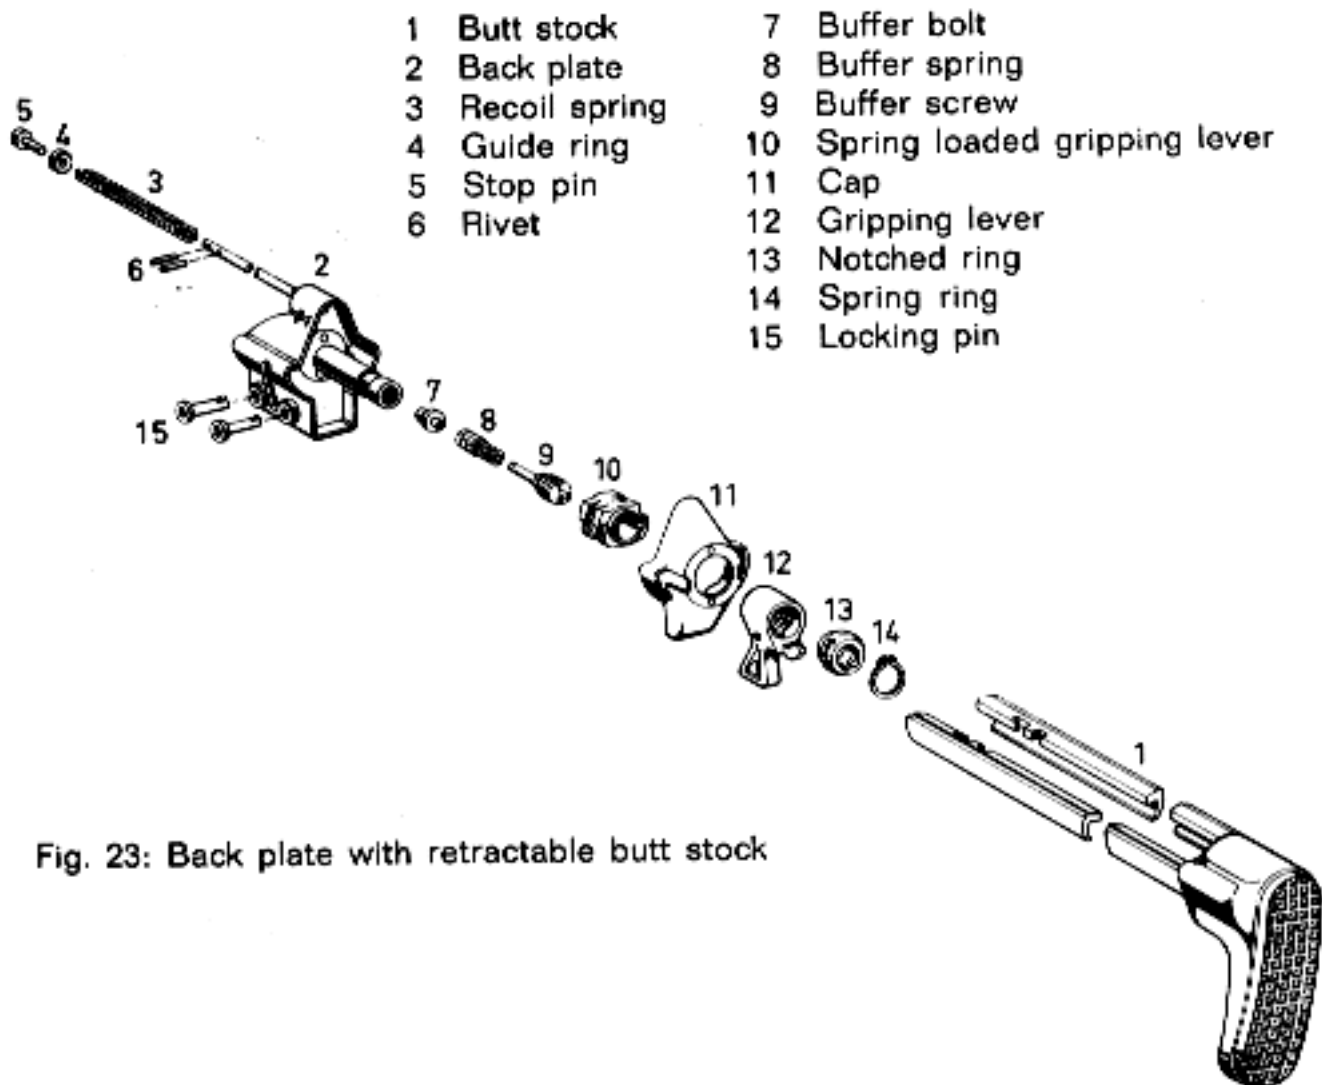

Fig. 23: Back plate with retractable butt stock
(2) **Back plate with retractable butt stock (Fig. 23)**